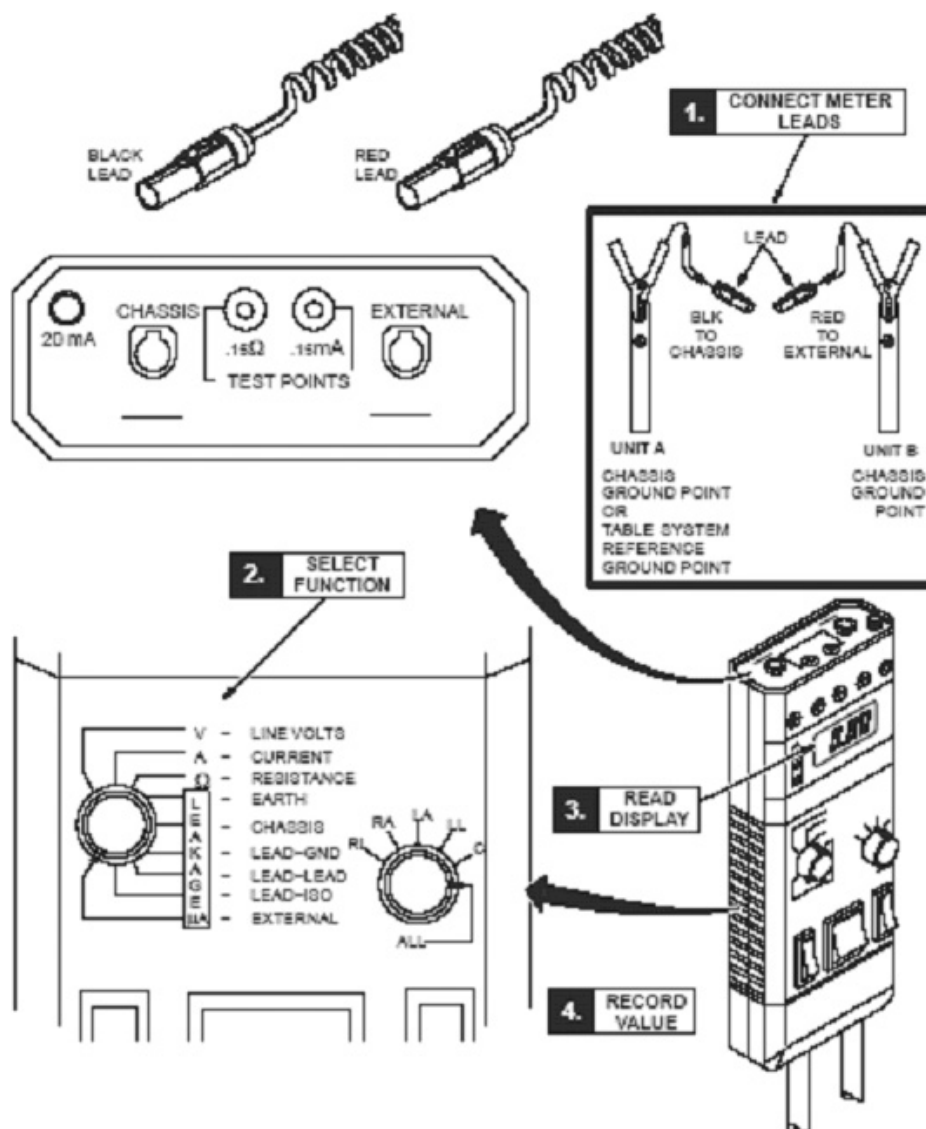

Figure 10-1 Using Dale 600 to Measure Leakage Current
- 1.) To measure leakage current using the Dale 600 meter, see Figure 10-1.